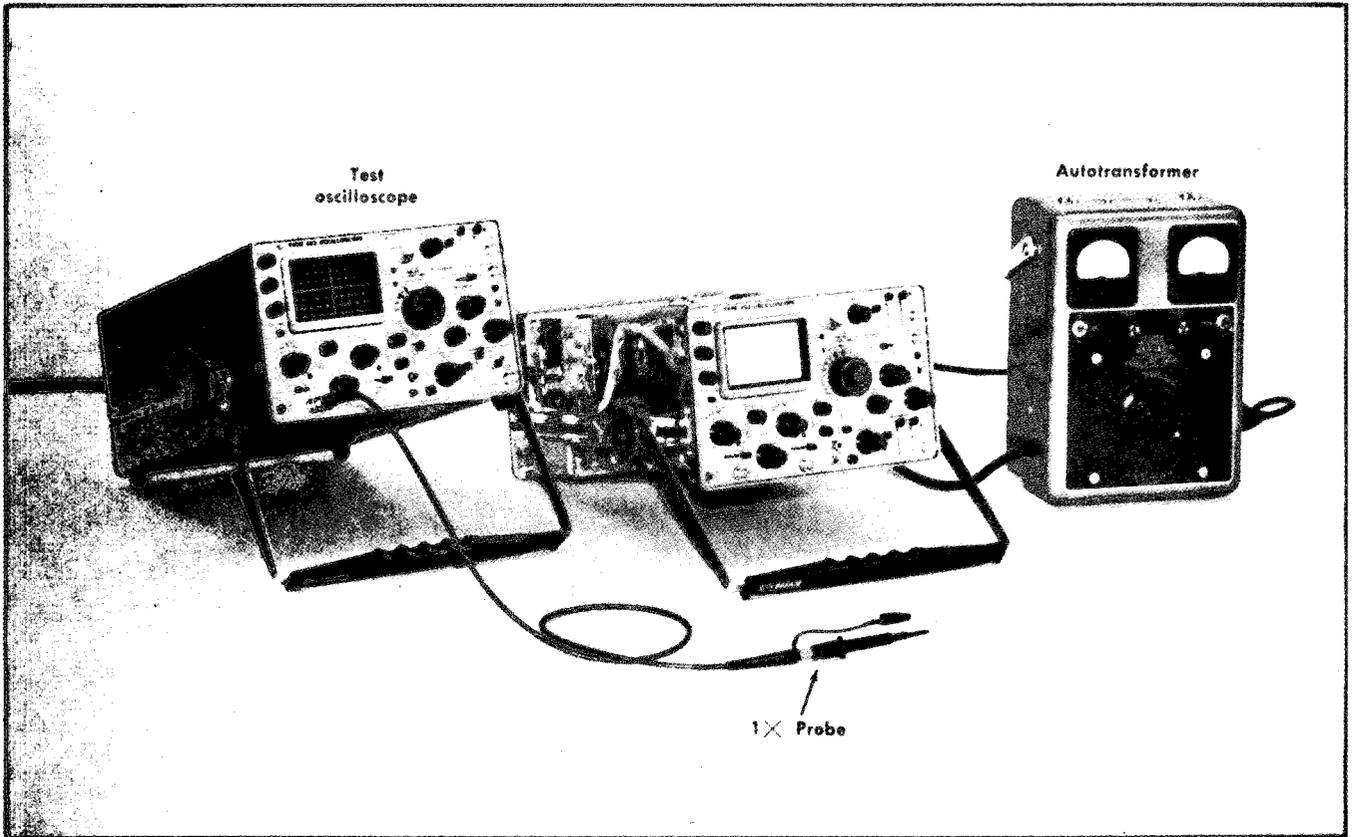

Fig. 6-7. Test equipment setup for steps 6 and 7.
- a. Test equipment setup is shown in Fig. 6-7.